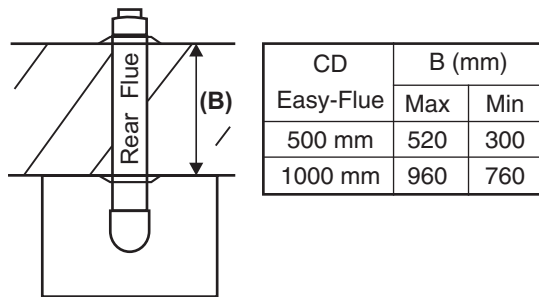

Fig. 5.5
## 5.6 FIT THE FLUE - Figs. 5.5 and 5.6
- When the flue length required is more than the maximum stated in Section 5.6, paragraph 1, refer to the table below and Figs 5.5 and 5.6. Alpha CD 750 mm flue extension (Part No. 6.2000750) or 1000 mm extension (Part No. 6.2001050) is required to extend the range of telescopic flue.